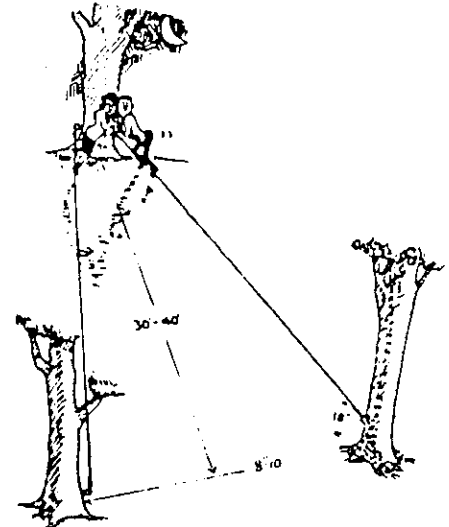

Figure 416 The Jiggler
39. The Jiggler: In this exercise, two people attempt to make their way to the end of two diverging cables or ropes without falling off. The cable is from one to two feet above the ground and may be 25 to 40 feet long. One good method of setting it up is to use a long  $\frac{3}{8}$  inch cable and encircle three well-spaced trees, such as in Figure 416. The two participants start out on the narrow end and work their way to the wider end. Leaning on one another is a good method of using teamwork.